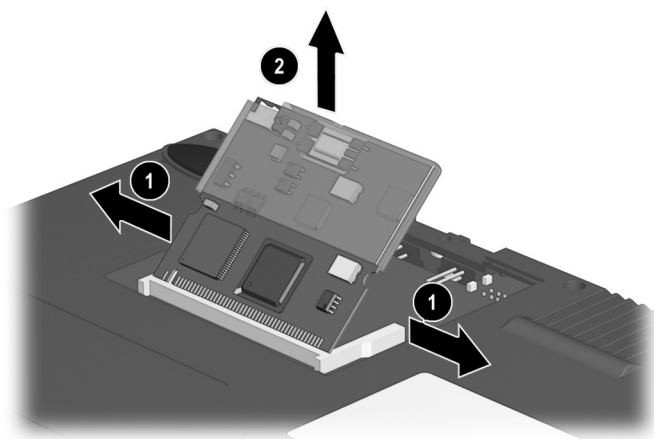

Figure 5-4: Removing the Mini PCI Communication Board
6. Pull away the plastic retention clips on each side of the mini PCI communication board ❶ (Figure 5-4). The board tilts upward.
7. Lift the edge of the board and slide it gently out of the connector ❷.